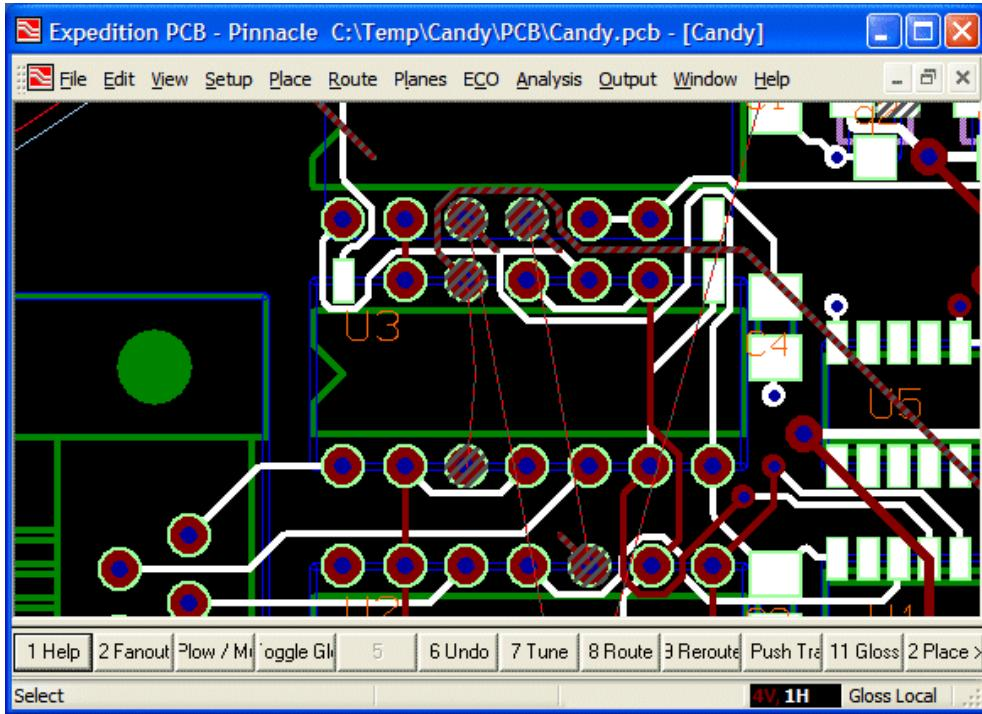

Figure 12-10. Delete the four traces crossing the middle of component U3.
- 3) Delete these traces, resulting in the design appearing as shown in Figure 12-10.